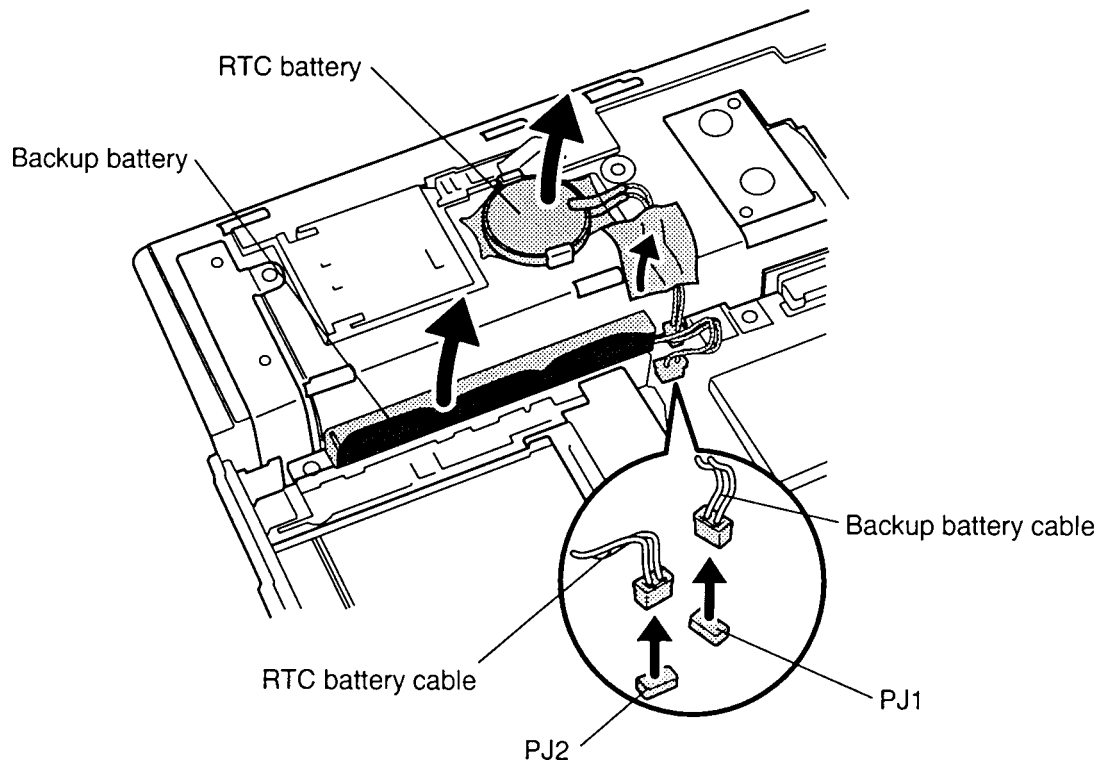

Figure 4-18 Removing the RTC and Backup Battery
To remove the T3600CT's RTC and backup batteries, follow the steps below and refer to Figure 4-18.
3. Peel off the **tape** securing the **RTC battery cable** (Figure 4-18).
4. Disconnect the **RTC battery cable** from **PJ2** on the system board (Figure 4-18).
5. Slide the **RTC battery** free of the brackets holding it in place to remove the battery (Figure 4-18).
6. Disconnect the **backup battery cable** from **PJ1** on the power supply board and lift out the battery (Figure 4-18).
To install the T3600CT's RTC and backup batteries, follow the steps below and refer to Figure 4-18.
1. Connect the **backup battery cable** to **PJ1** on the power supply board and lift out the battery (Figure 4-18).
2. Slide the **RTC battery** under the brackets on the bottom cover (Figure 4-18).
3. Connect the **RTC battery cable** to **PJ2** on the system board (Figure 4-18).
4. Secure the the **RTC battery cable** with **tape** (Figure 4-18)
5. Seat the **backup battery** in the bottom cover and connect its **cable** to **PJ1** on the power supply board (Figure 4-18).